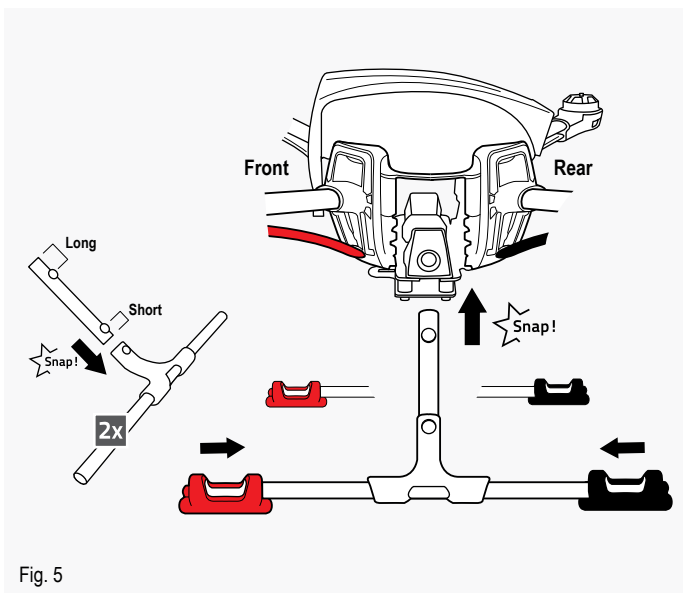

Fig. 5
Two sets of legs (5) are supplied: long and short. The long legs offer more ground clearance. Follow the installation diagrams [Fig. 5].